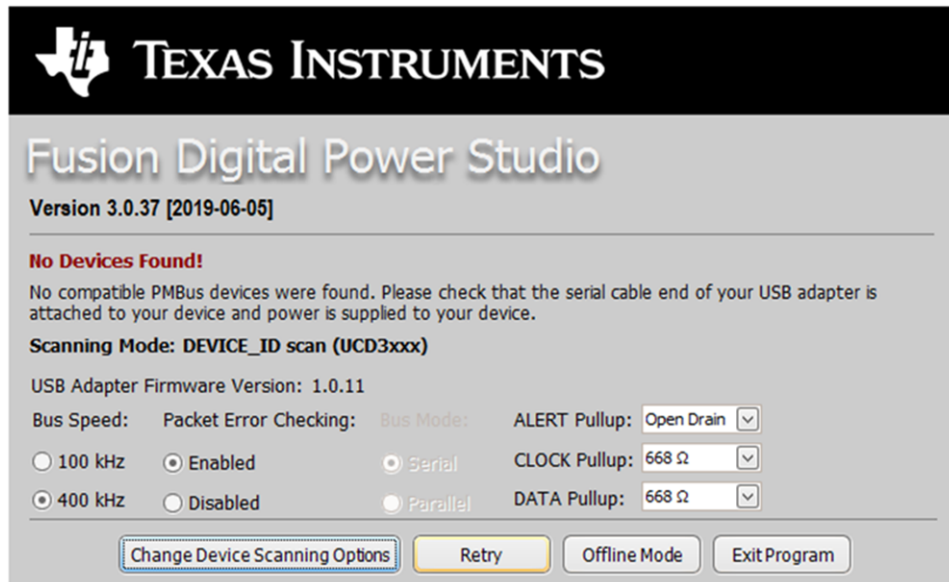

Figure 4. No Devices Found
5. If a supported device cannot be found, you see Figure 4: